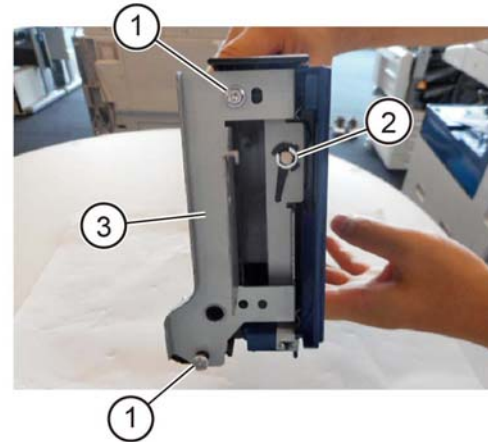

Figure 6 Front bracket removal
12. Remove the front bracket, **Figure 6**:
- a. Remove two screws (1).
- b. Remove the E-clip (2).
- c. Remove the front bracket (3).